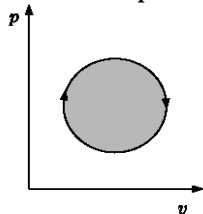

fig. 1
- Figures 1 and 2
- Figures 1 and 3
- Figures 1 and 4